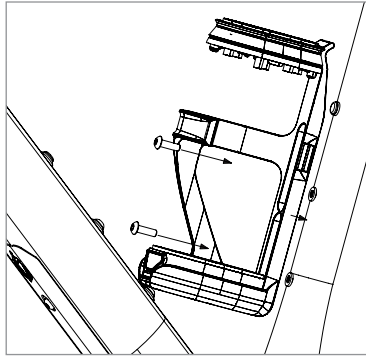

Figure 14
3. Attach the Range Extender holder to the frame and reinstall the bolts (Figure 14). Torque the bolts to 3–5Nm.